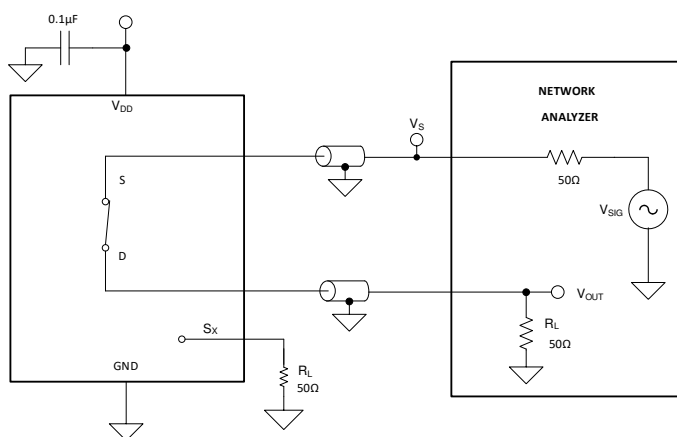

图 16. Bandwidth Measurement Setup
Bandwidth is defined as the range of frequencies that are attenuated by less than 3 dB when the input is applied to the source pin (Sx) of an on-channel, and the output is measured at the drain pin (D) of the device. 图 16 shows the setup used to measure bandwidth.